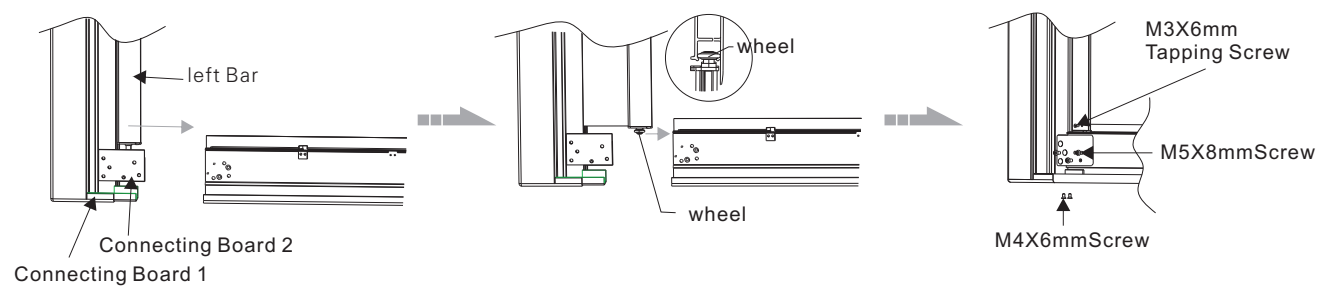

figure 2
2.Pull up the left bar to a suitable distance, and then attach the wheel into the groove of concave frame bar. Insert the connecting board 1 and the connecting board 2 into Concave Frame Bar (please operate together in two sides). Finally, fasten the corresponding screws: figure 2